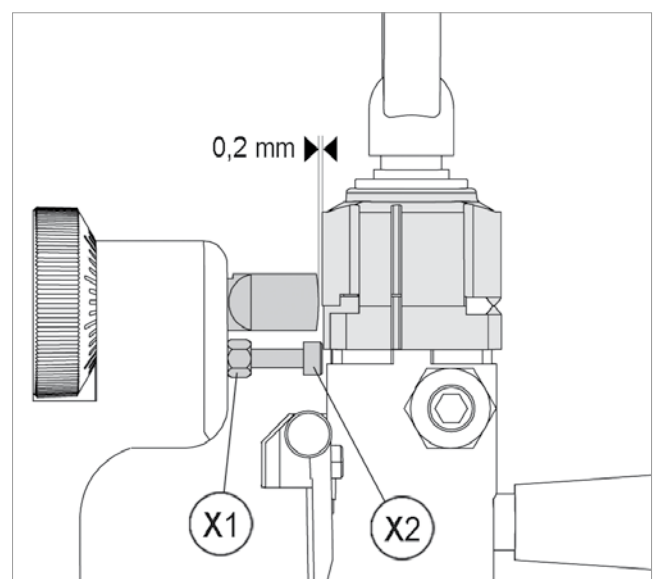

Fig.32
- 1) Raise the carriage against the cutting tool and take to the end of its run (Fig.32)